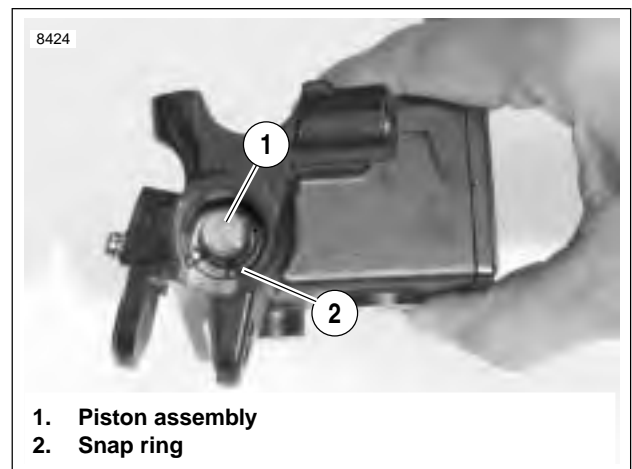

Figure 2-33. Piston Assembly in Master Cylinder
4. See Figure 2-33. Depress piston assembly (1) and remove internal snap ring (2) and discard.
5. See Figure 2-33. Secure piston assembly (1) with a **new** snap ring (2).